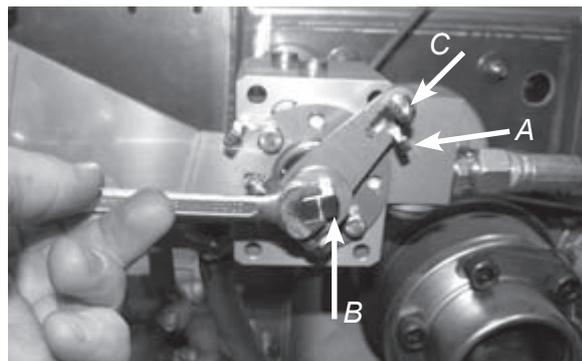

Figure 3.2.3-2
7. Use the control system in the cabin to check that the deflector can move to the up and down positions. The positions are illustrated in figures 3.2.3-3–3.2.3-6.